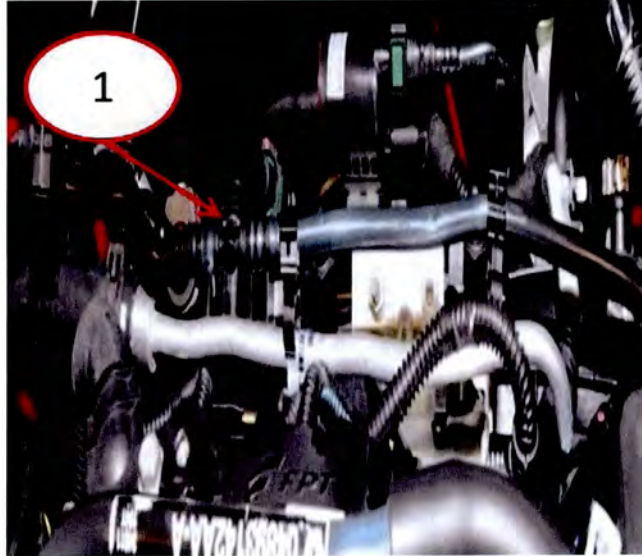

Fig. 1 Boost Vacuum Purge Harness
3. Shine a light on the boost vacuum purge harness tee (Fig. 1).